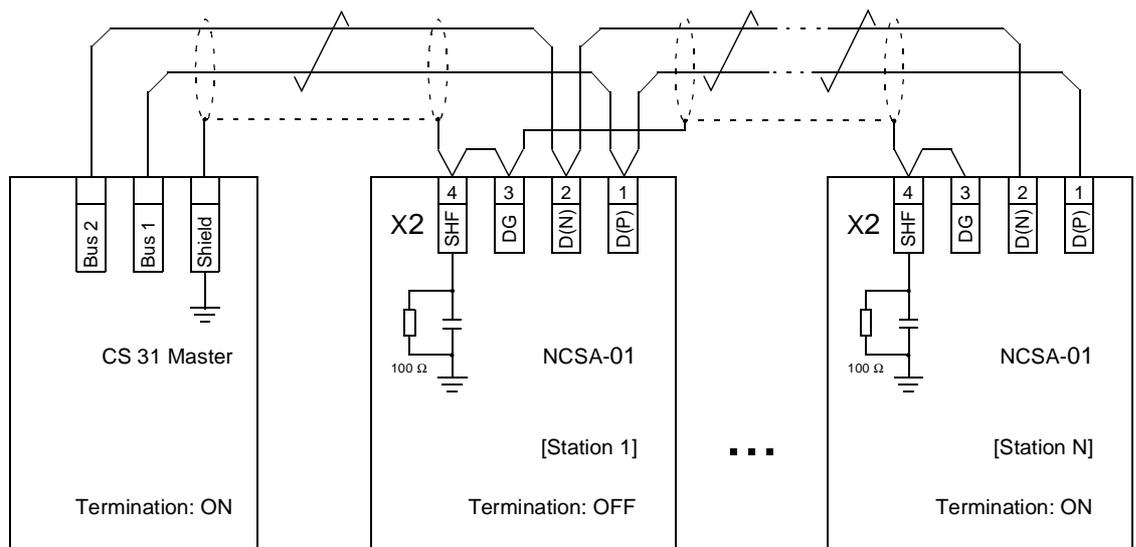

Figure 4-4 CS 31 bus cable connection.
The NCSA-01 module has several built-in earthing terminals (see Figure 4-4):
- The **DG** terminal is isolated from the NCSA-01 module earth. This terminal is to be connected to the SHF terminal on each module (as shown in Figure 4-4 below) in order to provide a common reference potential to all modules on the bus.